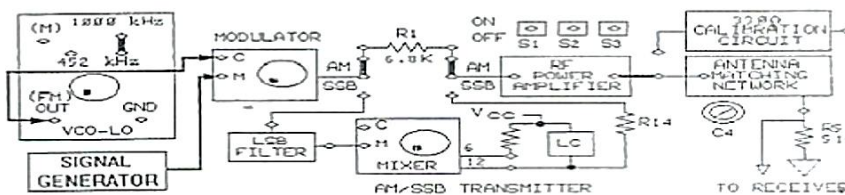

Figure 2-25.
9. Connect the signal generator (Figure 2-25) and the oscilloscope channel 2 probe to the MODULATOR message signal input (M).